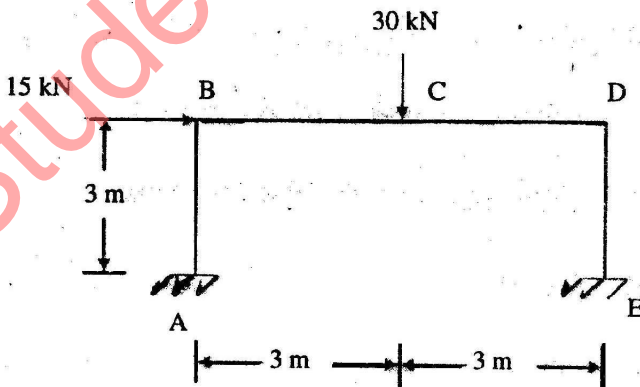

Figure No. 1
- (b) Find out the fully plastic moment for a portal frame shown in Figure No. 1. A uniform section is provided throughout. 15